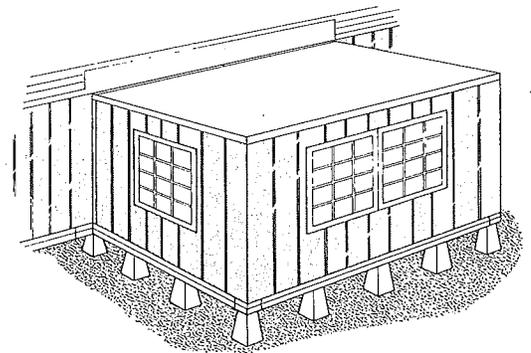

Figure 17
9. Carefully slide the slide-a-bay room in position on the floor. See Figure 17.